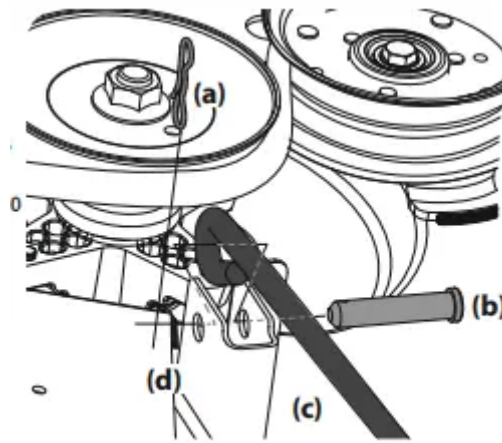

Figure 42
b. Remove the third bow-tie pin (a) from the clevis pin (b) that secures the front deck control rod (c) to the front deck lift bracket (d). Remove the clevis pin (b). See Figure 42.